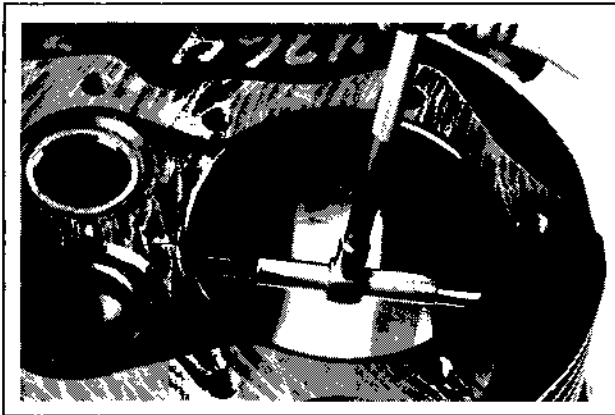

Figure 10-3. Measuring Cylinder Bore.
4. After resizing, check the bore for roundness, taper, and size. Use an inside micrometer, telescoping gauge, or bore gauge to take measurements (Refer to Figure 10-3). The measurements should be taken at three locations in the cylinder--at the top, middle, and bottom. Two measurements should be taken (perpendicular to each other) at each of the three locations.